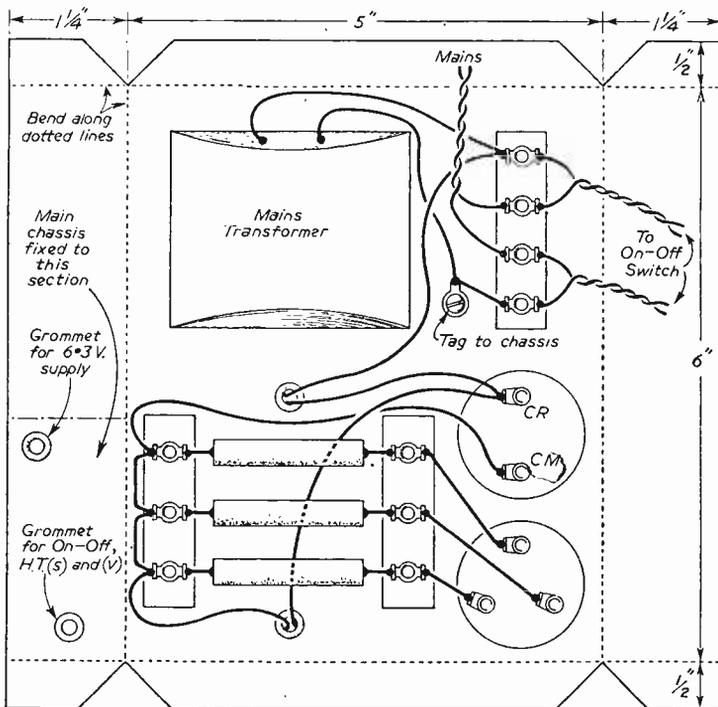
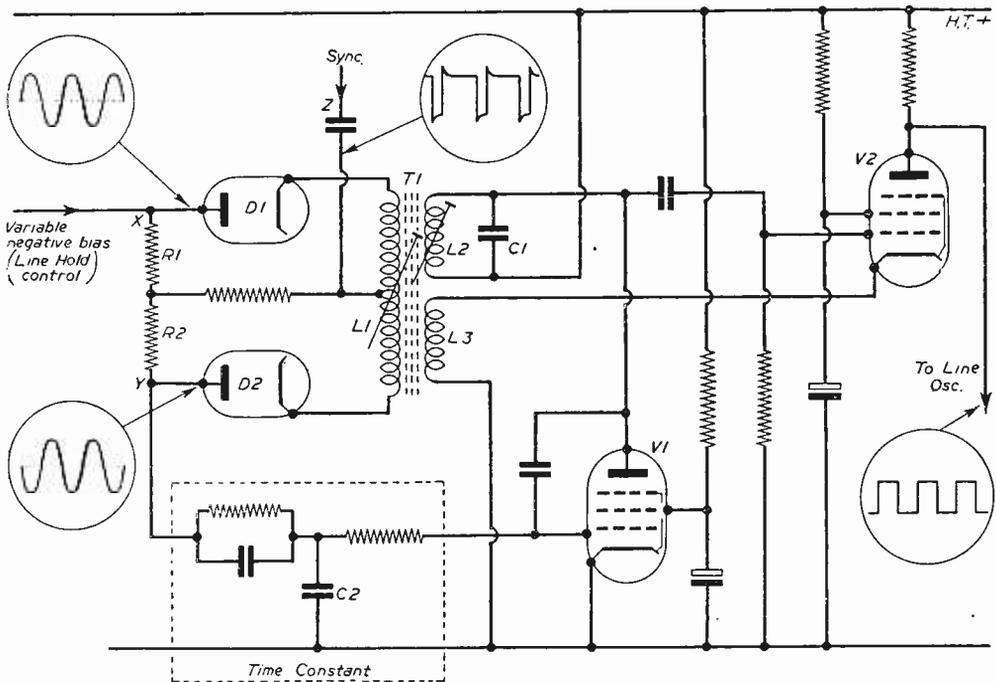

Fig. 15.—Wiring diagram of the Power Pack. The circuit appeared in the November issue.
Fig. 4.—A sinewave system. V1 is a reactance valve, and V2 a cathode coupled sinewave oscillator, and pulse shaper.
Fig. 4 gives the circuit and Fig. 15 the under chassis layout. The choke is on the chassis top. RS, RV and RTB are small 5 watt types and should be adjusted so that HT(s) is about 180-190v. H.T. (v) 200v, and H.T. (TB) 190v. This is normally obtained with all three resistors about 350 ohm, but varies with the mains voltage and also with the condition of the rectifier used. Assuming a new rectifier and 240v. mains, 350 ohms will suit practically all cases.
A flywheel system sharply resonant at 10,125 c.p.s. would not be able to cope with these variations and so has little practical use. Another snag is that even if it was a working proposition there is no guarantee that the phase of the line time-base would coincide with the phase of the picture and this would cause the famous picture-cut-in; no effect known as "false lock." A practical circuit using a sinewave oscillator is given in Fig. 4.